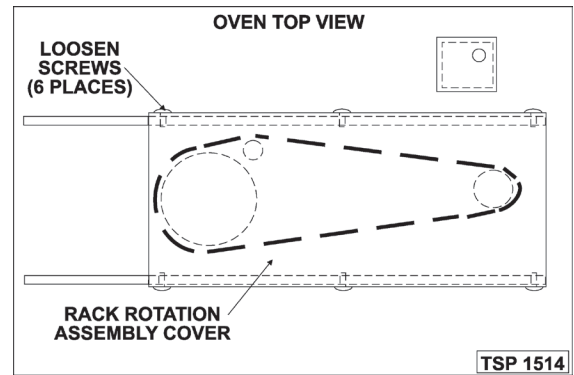

Fig. 54
- A. Gain access to the top of oven and loosen the screws securing rack rotation assembly cover (Fig. 54).